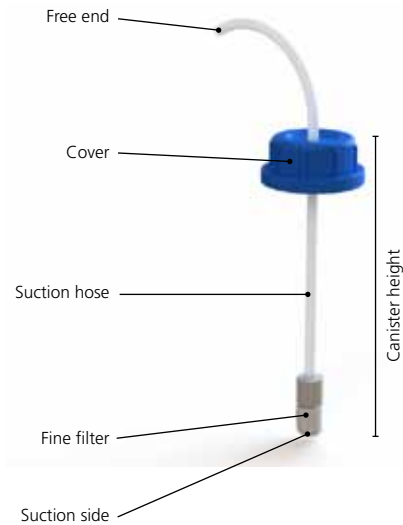

Figure 3: Suction hose with fine filter and canister cover
2. Push the suction hose with the free end from below through the hole in the cover (Figure 3).
3. The distance between the fine filter and the cover corresponds to the canister height (figure 3).
5. Insert the free end of the suction hose (Figure 3) through the hole in the cap nut.